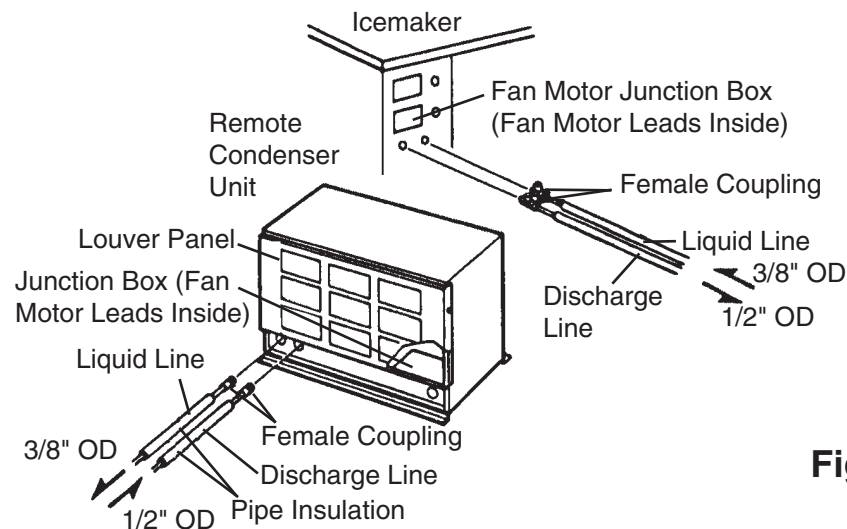

Fig. 6
- 1) Route the factory line set (1/2" OD discharge line and 3/8" OD liquid line) from the remote condenser unit to the icemaker. See Fig. 6. Factory fabricated line sets are precharged and do not need to be evacuated.
- 1) Route a 1/2" OD copper tubing discharge line and a 3/8" OD copper tubing liquid line between the remote condenser unit and the icemaker. See Fig. 6.